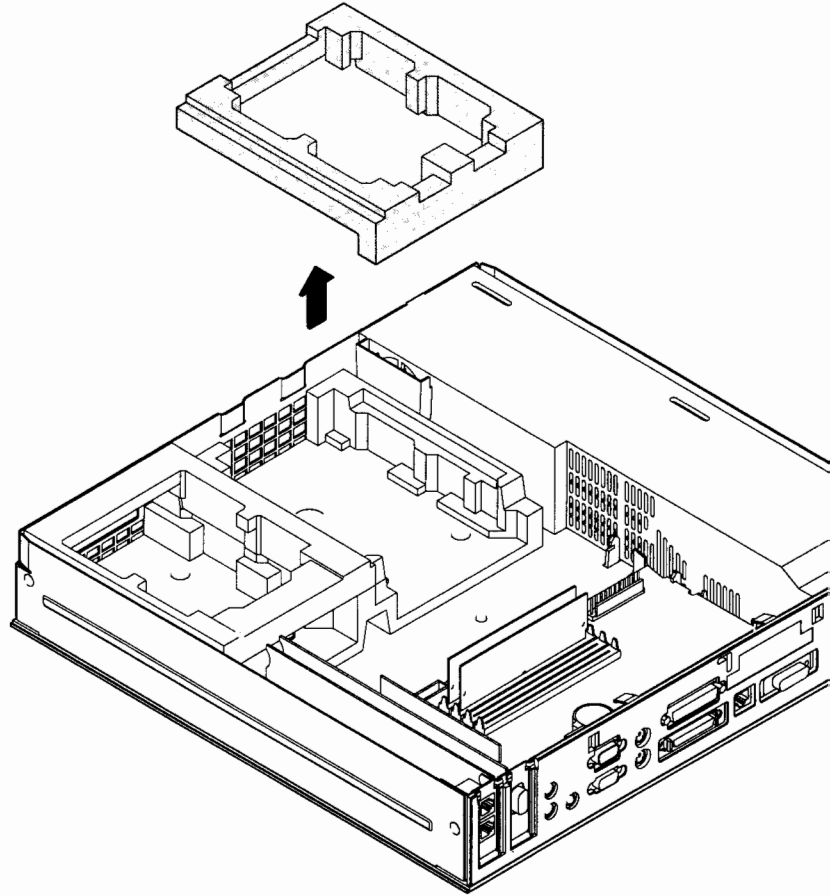

Figure B-11. Removing the Hard Disk Drive Foam Bracket
4. Lift up the foam bracket, as shown in Figure B-11.